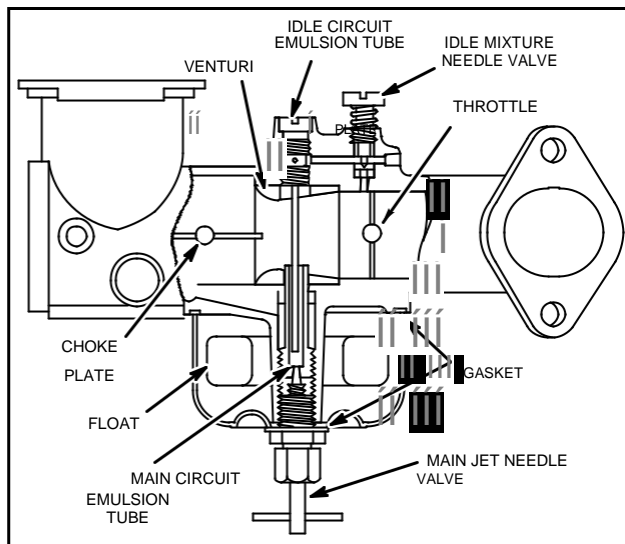

Fig. 259 - LARGE ONE-PIECE FLO-JET CARBURETOR
1. Remove idle circuit needle valve, Fig. 259.